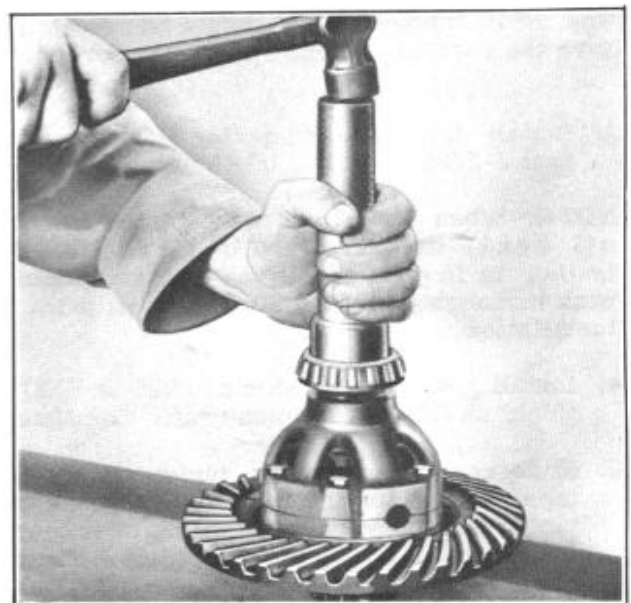

FIGURE 29
6. Install bearing cones on differentials case hubs, using differential side bearing replacer J-2646 as shown in Figure 29.